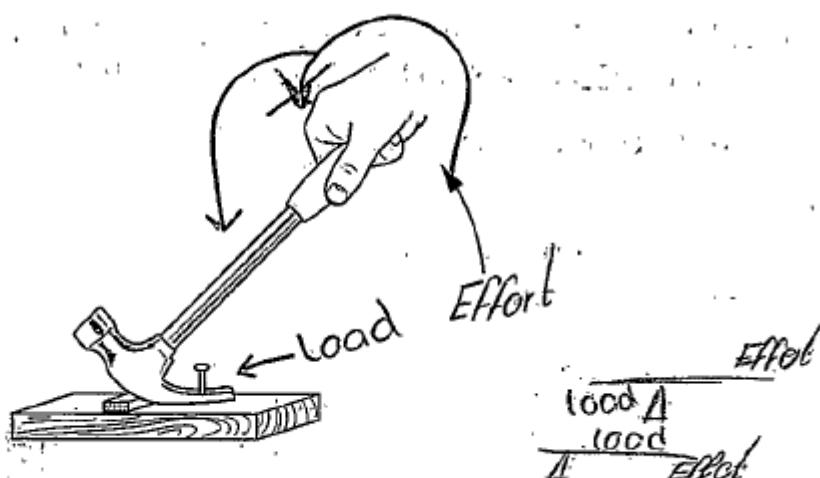

Fig. 1
- (ii) State the class of lever represented by the hammer being used in Fig. 1.